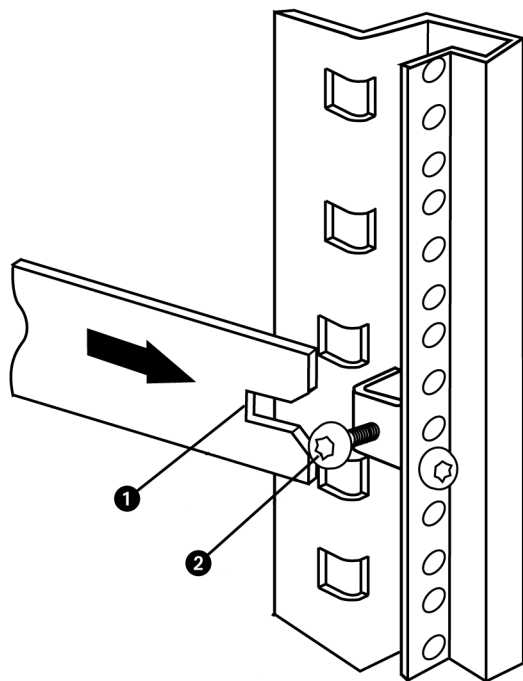
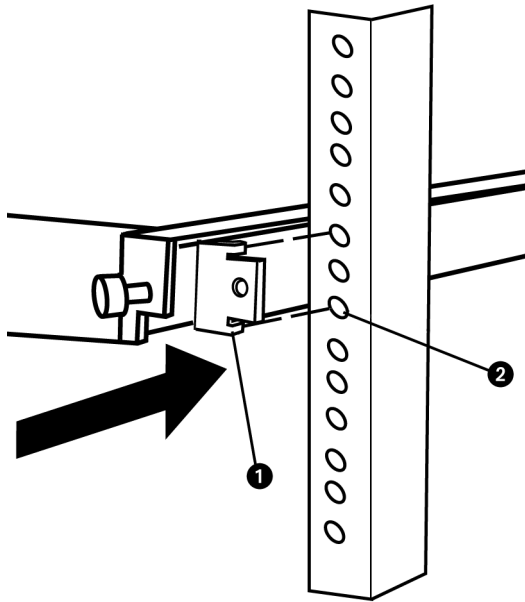

Figure 28: Positioning the sliding shelf bracket on a rail rear slot
Figure 29: Positioning the sliding shelf bracket at the rack front
6. Insert the shelf into the rack so that both rail rear slots (1) slide over the loose screws (2) on the inside face of each bracket, as shown in Figure 28.
7. Make sure that the sliding shelf and rails are horizontal, as shown in Figure 29 at the rack front.
8. Push each of the rail front tabs (❶) into the corresponding holes on the rack columns (❷).
9. At the back of the rack, tighten the screws that attach the sliding shelf rails to the mounting brackets, as shown in Figure 28 (❷).